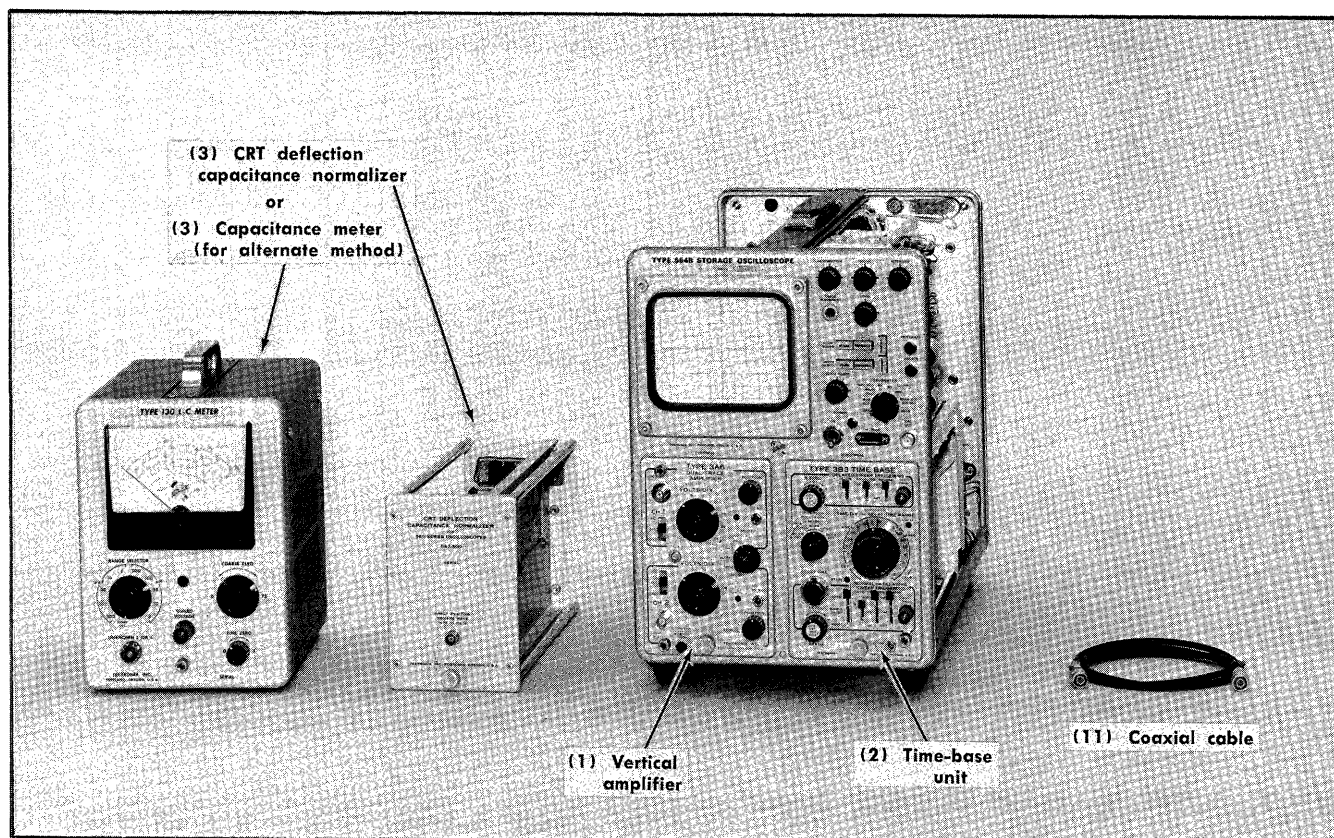

Fig. 5-11. Test equipment required for step 17.
a. Test equipment required for step 17 is shown in Fig. 5-11. The illustrated equipment is keyed to that listed under Test Equipment Required.